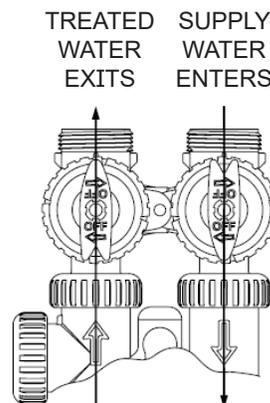

Figure 11
1. **Normal Operation:** The inlet and outlet handles point in the direction of flow indicated by the engraved arrows on the control valve. Water flows through the control valve during normal operation and this position also allows the control valve to isolate the media bed during the regeneration cycle. (See Figure 11)